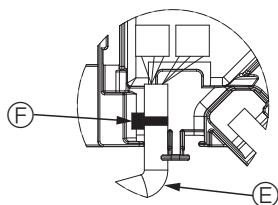

Fig. 6-11
- * Place the band securing the panel vane motor wire in the connector box as shown in the diagram. (Fig. 6-11)